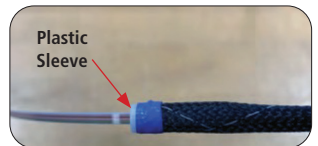

Figure 4
4. Install feeder fiber in splice cassette. Insert plastic sleeve into mesh sleeve and secure using tape. Insert feeder fiber into sleeve. **(Figure 4)**